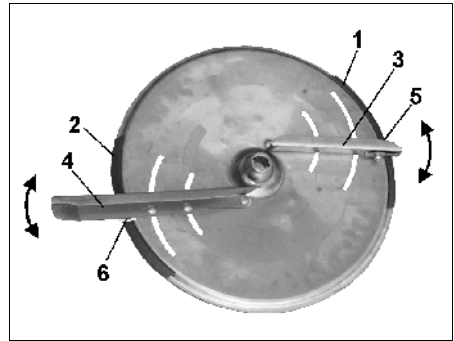

Fig. 35
For the accurate tool less setting of the individual spreading vane position two different unmistakable scales (Fig. 35/1 and Fig. 35/2) are arranged on every individual spreading disc
The scale (Fig. 35/1) with the figure from 5 to 28 refers to the shorter spreading vane (Fig. 35/3) and the scale (Fig. 35/2) with the figures from 35 to 55 refers to the longer spreading vane(Fig. 35/4).
Swivelling the spreading vanes to a higher figure on the scale (Fig. 35/1 or Fig. 35/2) ) results in an increase of the working width.
- Look for the scale figure for the position of the **short spreading vane** on scale (Fig. 35/1).
- Swivel the read off edge (Fig. 35/5) of the **short** vane (Fig. 35/3) on to the scale figure and **retighten the thumb nut firmly**.
- Look for the scale figure for the position of the **long** spreading vane on scale (Fig. 35/2).
- Swivel the read off edge (Fig. 35/6) of the **long** vane (Fig. 35/4) on to the scale figure and **retighten the thumb nut firmly**.